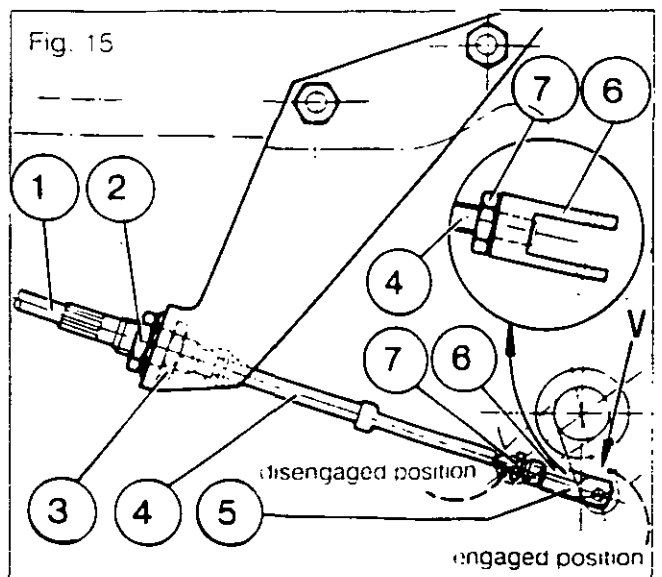

Fig. 15
115. Place the control pivot V in the «engaged» position (Fig. 15).
116. Screw the clevis (6) on to the threaded part of the cable (4) (Fig. 15).
**Note: After tightening, make sure that the cable operates freely to the «disengaged» and «engaged» positions (Fig. 15).**